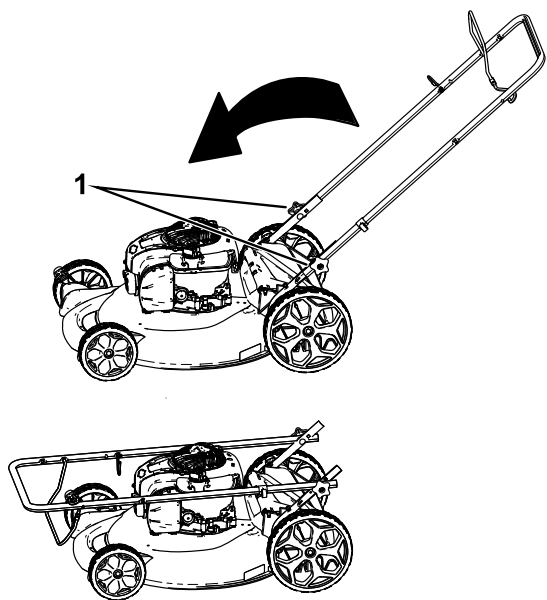

Figure 14
2. Loosen the handle knobs until you can move the handle freely (Figure 14).
1. Handle knob (2)
3. Move the handle forward as shown in Figure 14.